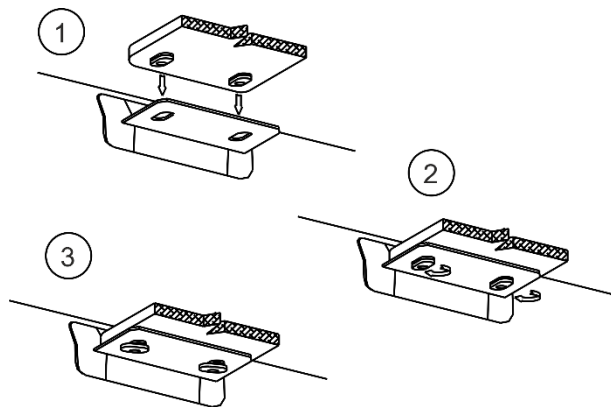

Fig. 5. Installation of wooden seats.
- Turn the stops caps to 90° till they click as shown in the figure 5.